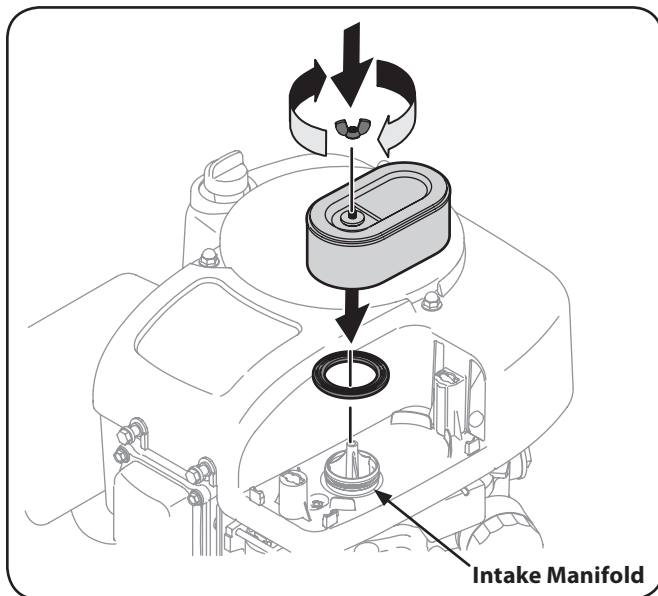

Figure 6-7
- Attach the new air filter with foam element, aligning the hole in the air filter with the intake manifold. See Figure 6-7. Secure with thumb screw.